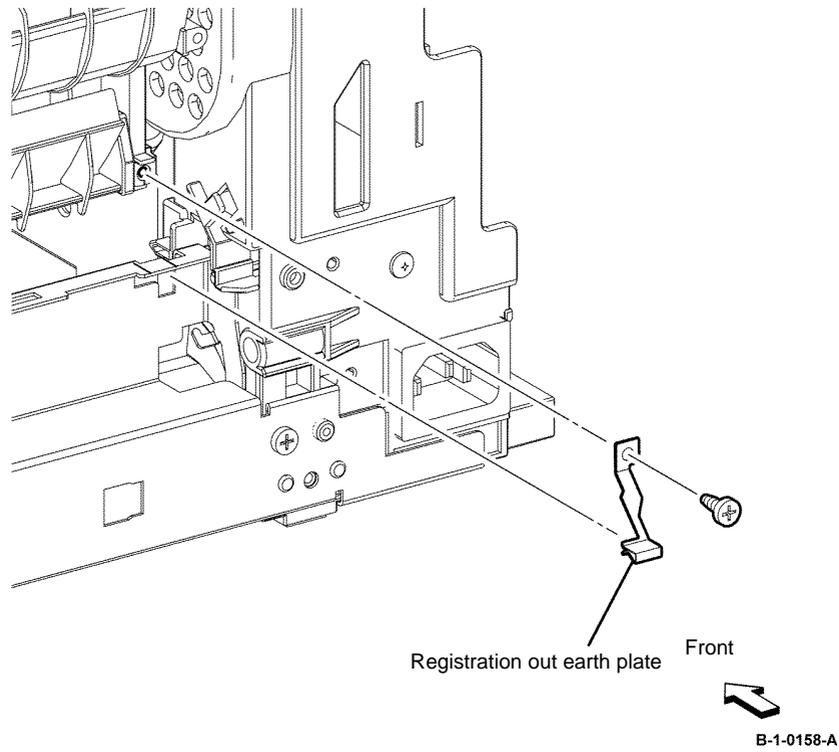

Figure 5 Registration out earth plate removal
25. Release one screw (silver, tapping, 8mm), then remove the registration out earth plate, Figure 5.